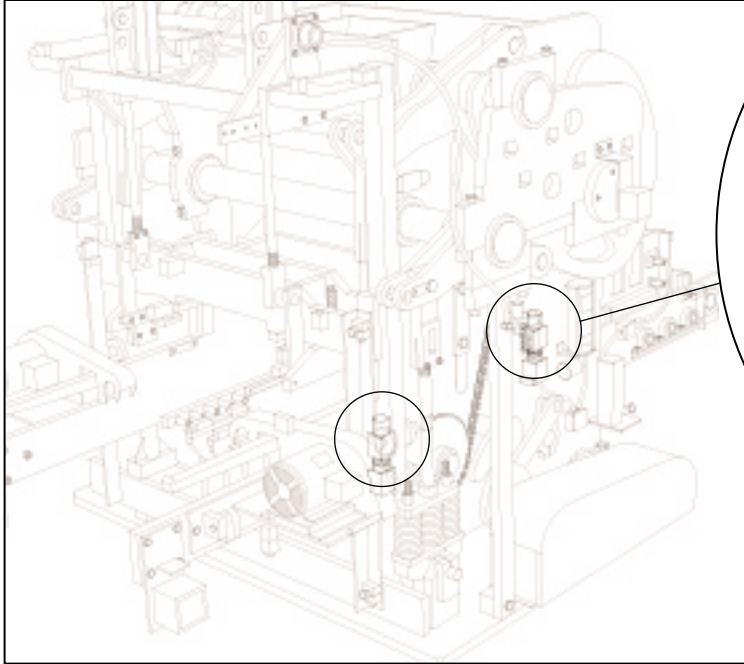

Figure 4.7 BOLTS AT ALL 4 CORNERS. (RIGHT SIDE SHOWN)
- b. Loosen bolts at all 4 corners that secure mold throat assembly (See figures 4.7 and 4.8). Remove top spacers.